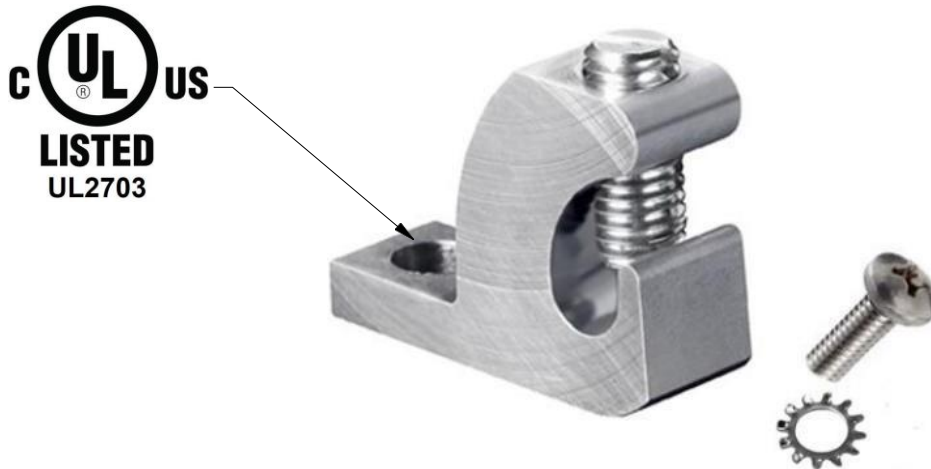

Figure 21: ILSCO GBL-4DBT GROUNDING LUG
2. Drill a hole in the Strut Rail and install an ILSCO GBL-4DBT or other UL and cETL listed lay-in grounding lug. Refer to Figure 21 below.